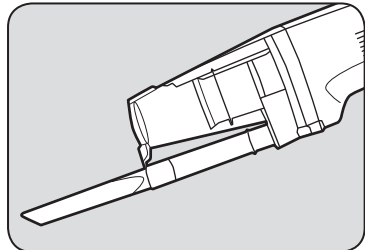

Fig. 10
6. Replace the floor nozzle with the crevice tool for cleaning along baseboards, ceilings and into small spaces. (Fig. 10)